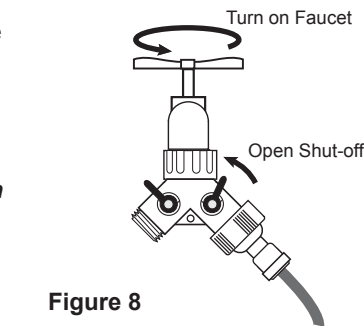

Figure 8
9) Slowly turn on the faucet (see Figure 8). Make sure that both Shut-offs on the Wye are fully closed.
10) Open the Shut-off on the Supply Line side of the Wye (see Figure 8) until you detect water starting to flow. Limit the flow to a small stream by looking inside the Canister. **Make sure the pressure does not push the Supply Line out of the Float Valve connection.** If it does, repeat Step 6 and tighten.